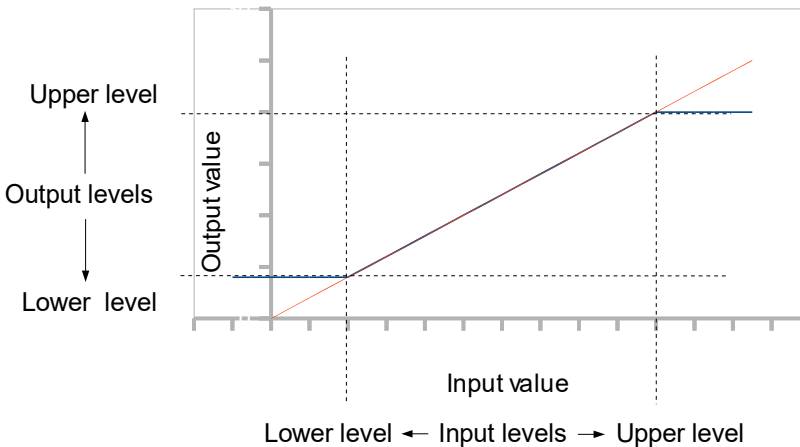

Fig. 7.96. Input (red)-output (blue) characteristic of signal in **Current output** module
**Lower level** and **Upper level** parameter describes the transfer equation (linear) - see Fig. 7.96. **Lower level** of the output defines the current which can be generated when the value of the input signal equals the **Lower level**. **Upper level** of the output defines the current which can be generated when the value of the input signal equals the **Upper level**.